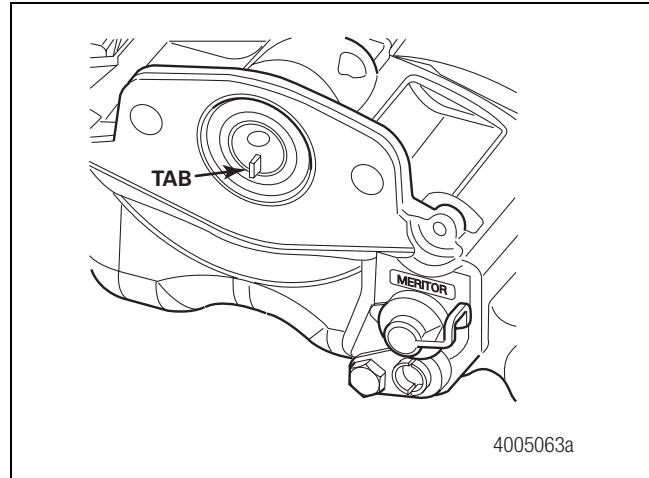
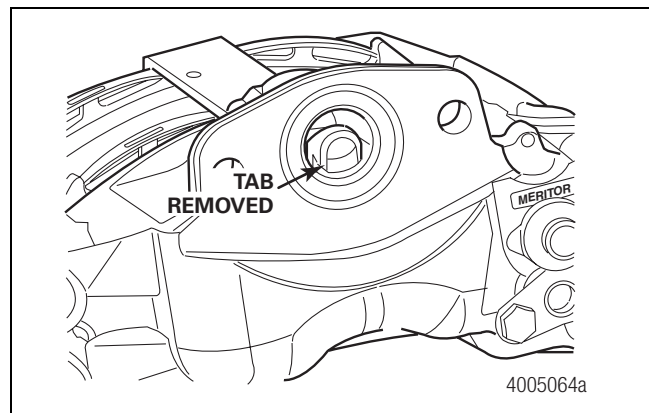

Figure 5.5
Figure 5.6
4. Before you install the air chamber onto the caliper assembly, ensure the perforated transit plug is removed from the caliper chamber seal by pulling the tab. Figure 5.5 and Figure 5.6.